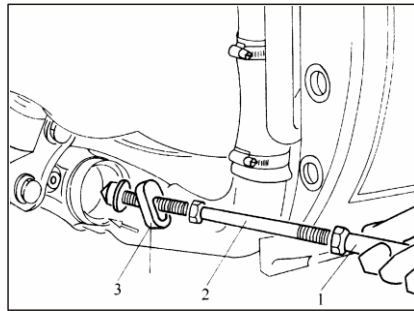
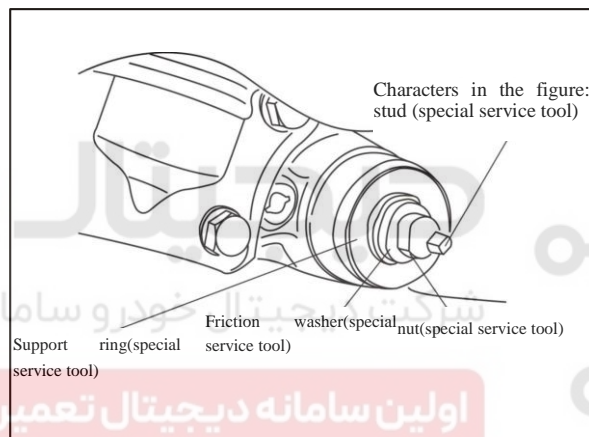

Figure 4-40 Install Special service tool
Figure 4-41 Remove Medial Needle Bearing
1) Place plate (special service tool) on backside of medial bearing using special service tool as shown in Figure 4-40.
2) Fasten screw 2, remove solenoid 1 (see Figure 4-40), install special service tool mounting ring (special service tool), friction washer (special service tool), nut component (special service tool), as shown in Figure 4-41.